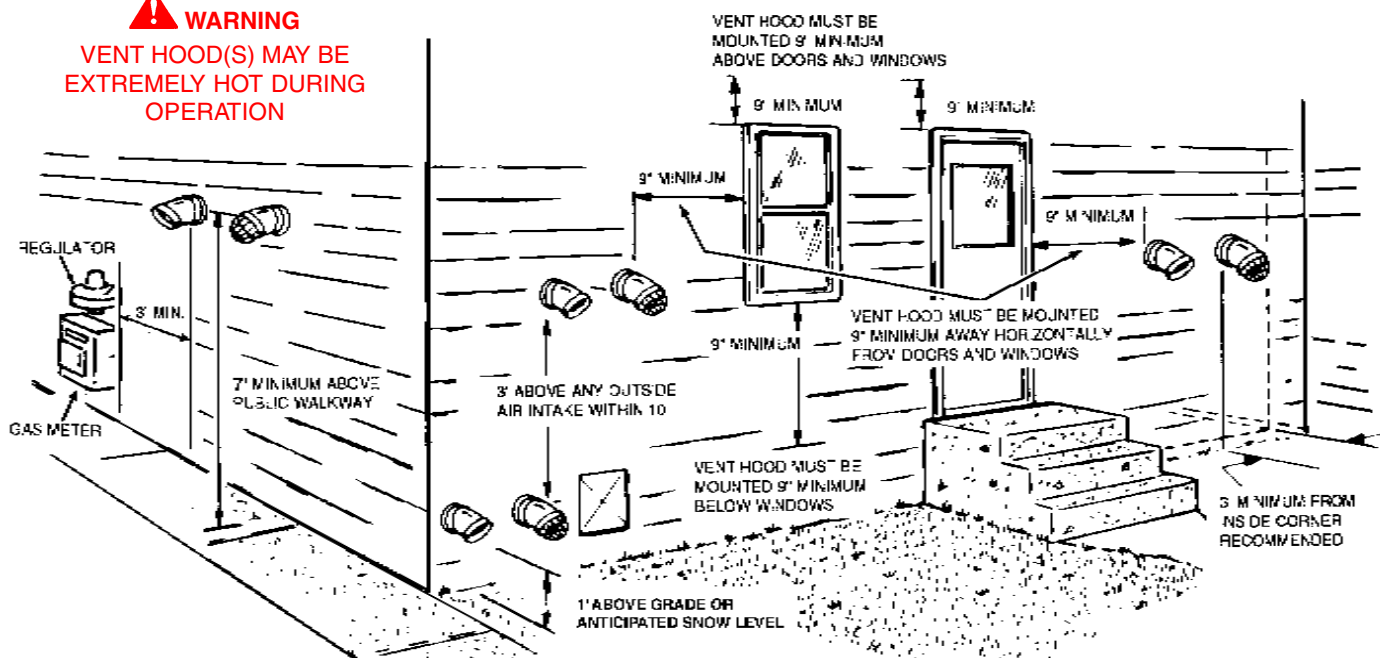

FIGURE 4
1. The intake and exhaust vent terminals of a mechanical vent system shall be not less than 7 feet above grade when located adjacent to public walkways. (fig. 4)
2. The venting system shall terminate at least 3 feet above any forced air inlet located within 10 feet. (fig. 4)